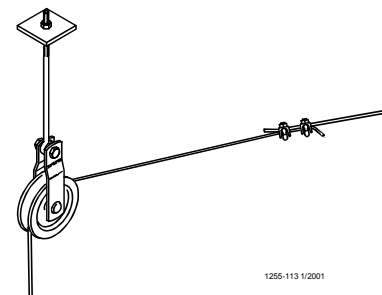
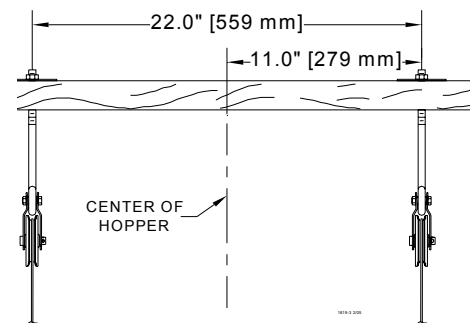

Figure 8. Steel Hopper Suspension
Figure 9. Plastic Hopper Suspension
•Feed Hopper Locations: **When steel hoppers with center suspension are used, see figure 8, the feeder line must be supported within 1' [30 cm] of the feed hopper.** When plastic hoppers are installed only 2 point suspension can be used, see figure 9, this does not require additional supports. See page 16 for plastic hopper suspension. This is in addition to the required feeder hopper suspension. After determining the type of suspension system required, decide where the feeder line is to be installed. Mark a straight line on the ceiling or rafters the full length of the feeder line. Use a string, chalk line, or the winch cable, temporarily attached with staples, to mark the line. Center the line directly over where the feeder line is to be installed.